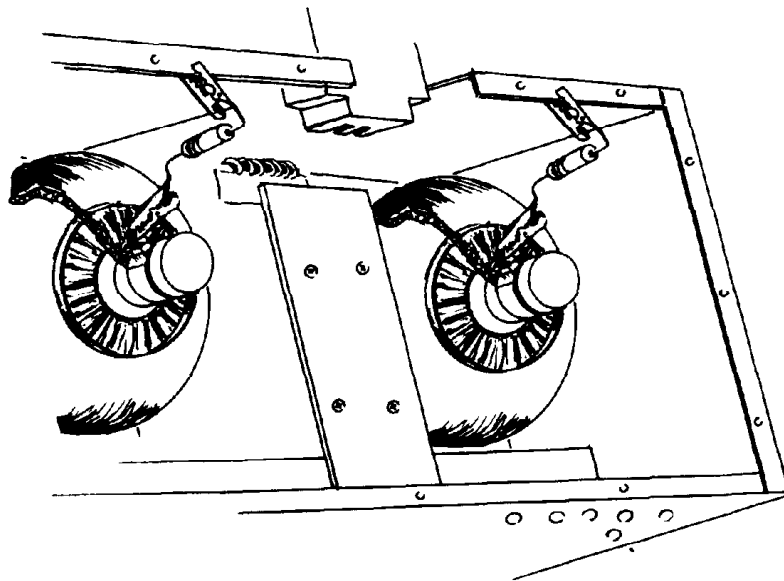

Figure 4. 1200 Ohm Resistor Installation
- (e) Remove the Final Tube cover and install the two 1200 ohm resistors, RF Part Number 6802-5110, between the tube cooling fins and ground, per Figure 4.